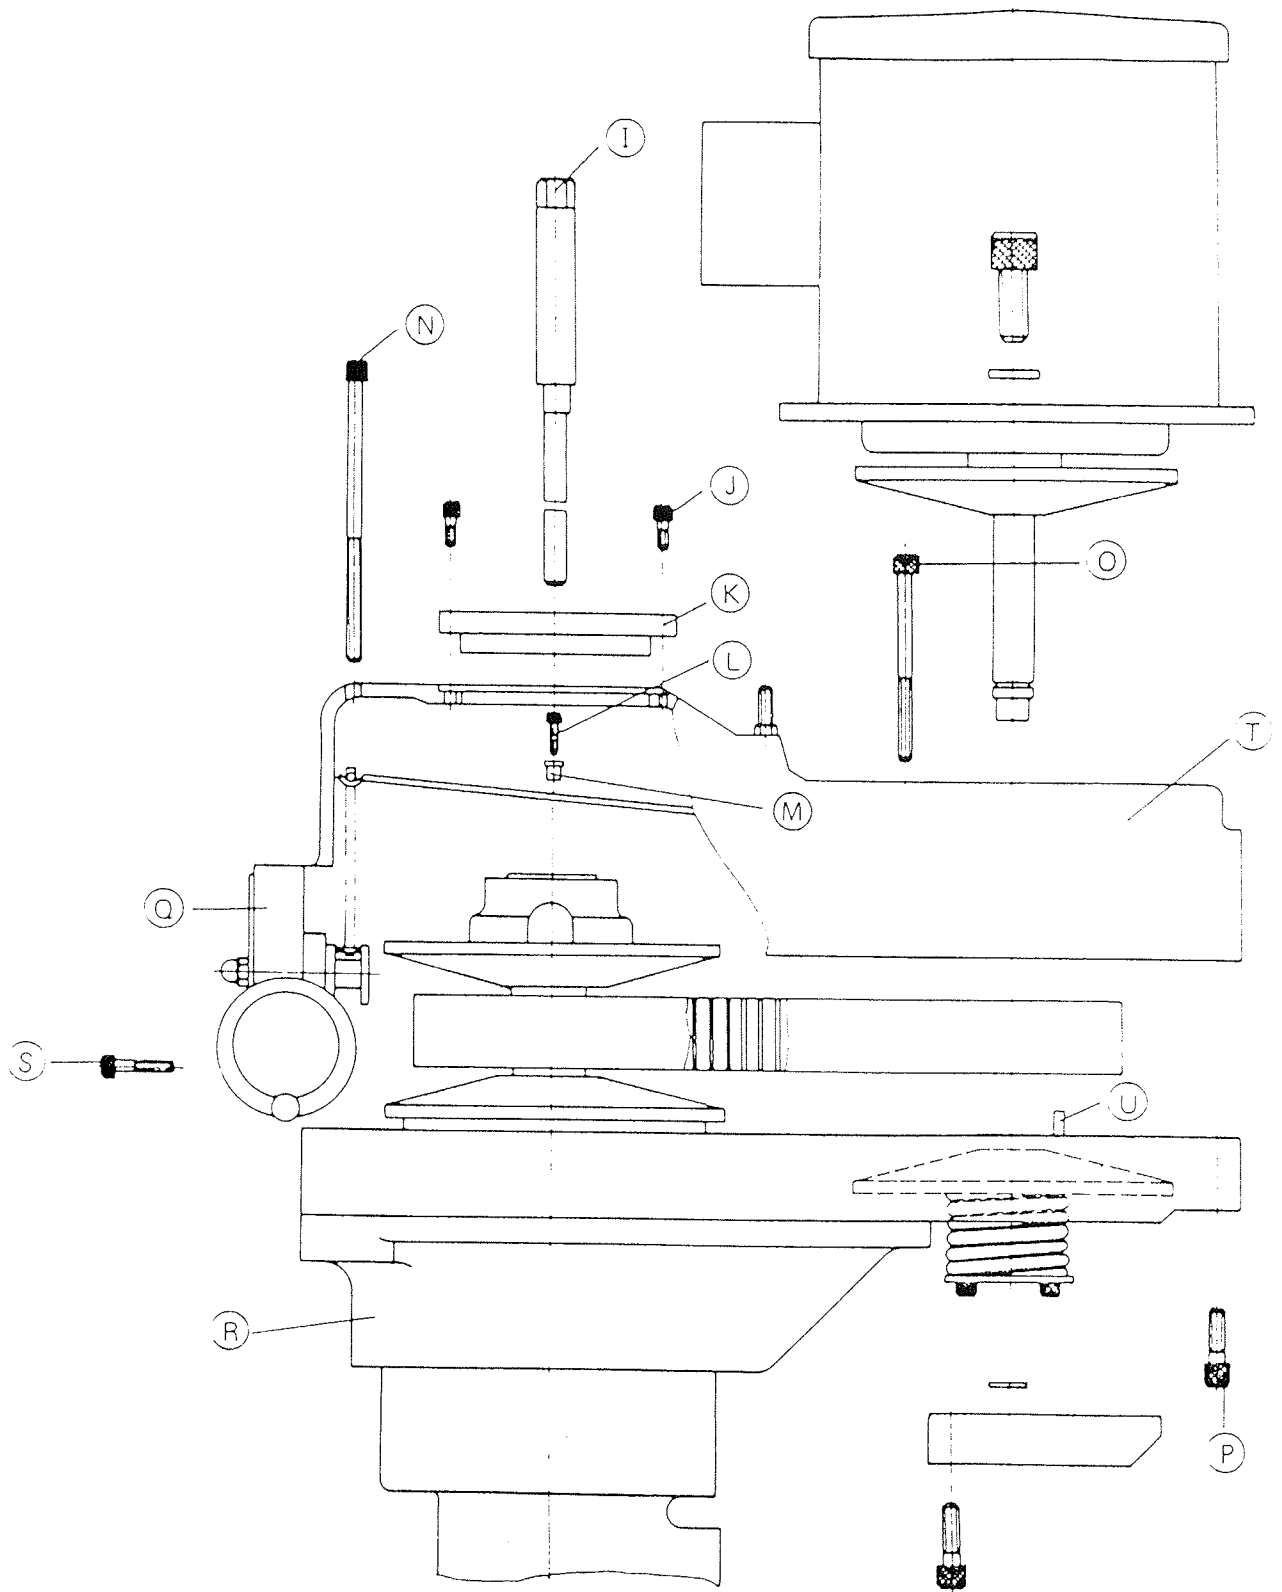

Figure 26
2. Replacing the Speed Change Belt: (Fig. 26)